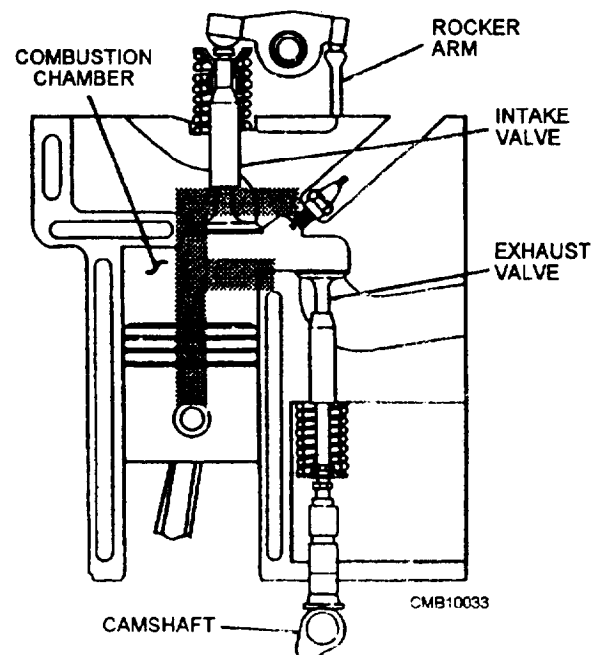

Figure 2-13.—F-head engine.
- **F-HEAD** (fig. 2-13)—The intake valves are normally located in the head, while the exhaust